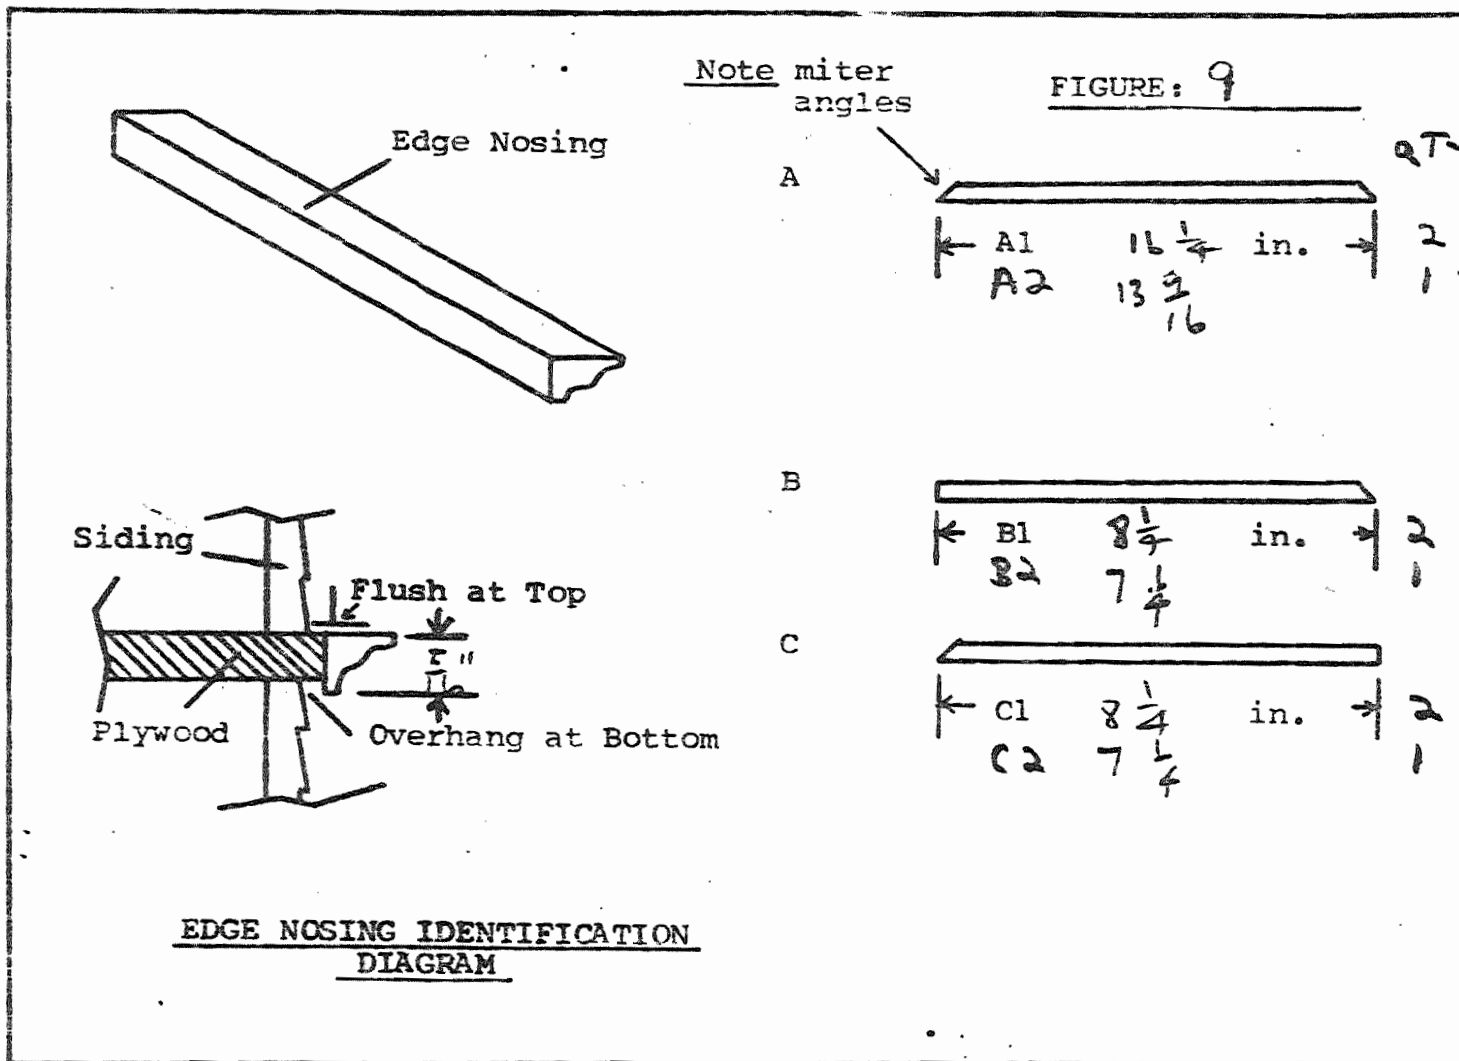

FIGURE 9
- 37) Install the edge nosing as shown in Figure 9.
The edge nosing should be glued into position so that the top of the nosing is flush with the floor as shown in Figure 9.